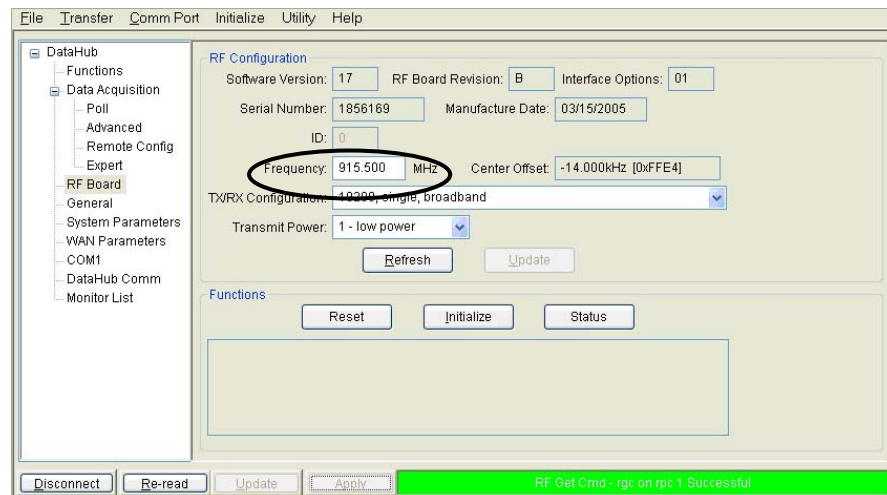

Fig. 8.12: Set RF Frequency
8.6.2.5 Highlight the text in the **Frequency** box and change the text to the frequency assigned to the Monitors and DataHubs for the site and hit the Enter key. Fig. 8.12